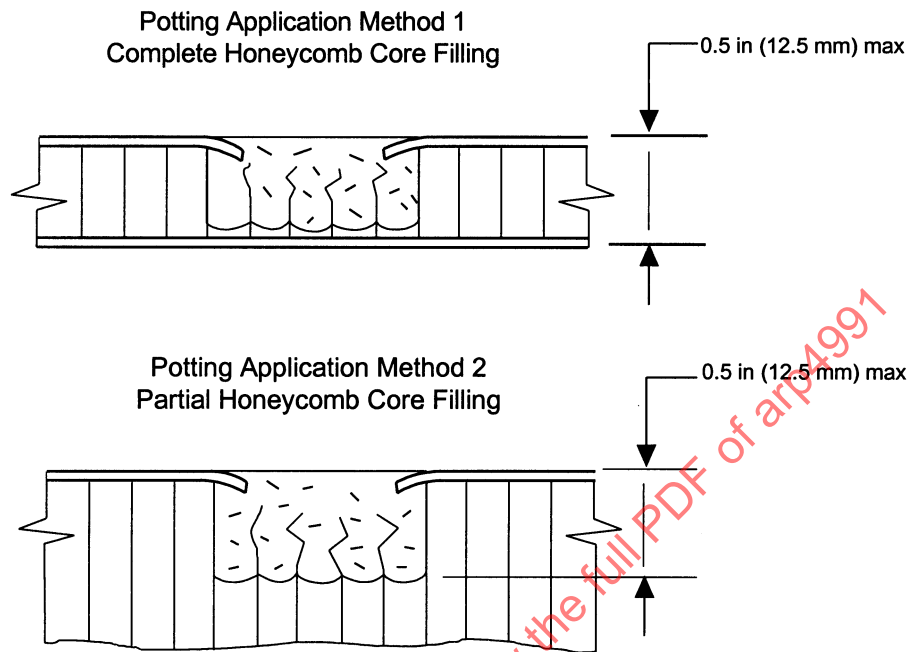

FIGURE 3 - Core Restoration With Potting - Method 1
5.2.4.1 Core Restoration With Potting - Method 1 - Partial Damage Removal : Procedure (refer to Figure 3):